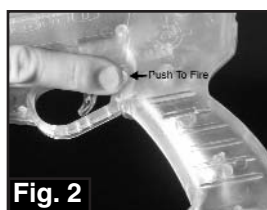

Fig. 2
- Locate the safety on the right hand side of the trigger guard, behind the trigger. (Fig. 2)
- Locate the safety on the left side and push the safety all the way in. The soft air gun is ready to fire when "OFF SAFE" (Fig. 2).